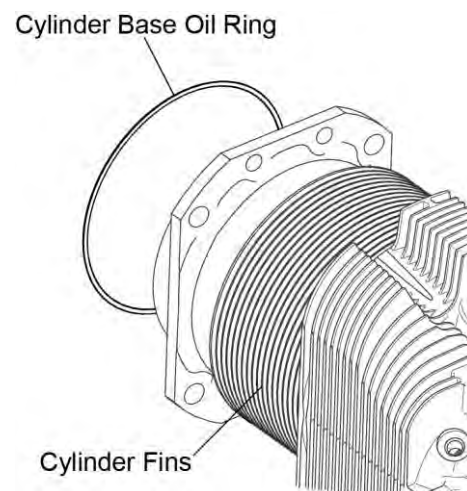

Figure 17
- S. Remove the cylinder base oil ring from the cylinder (Figure 17) and keep it to use as support for the connecting rods after the pistons are removed.